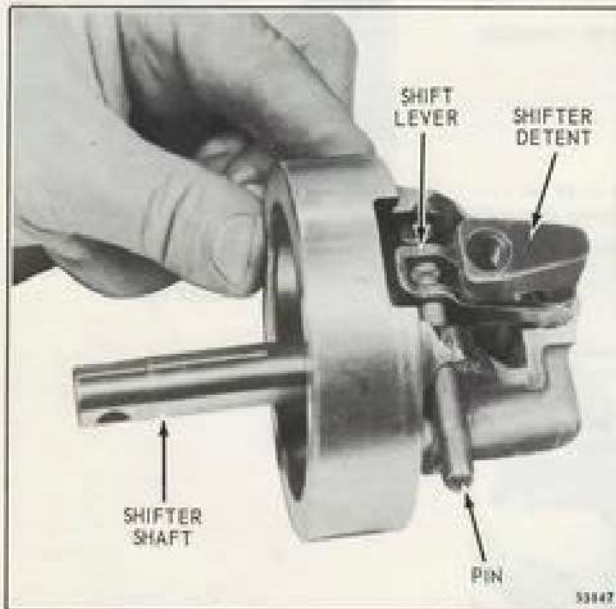

Figure 6-27. Removing Shift Lever Pin
b. Remove shift lever pin. See Figure 6-27. Disengage shift lever from cradle in shifter shaft, and remove shifter shaft and cradle. See Figure 6-28. Remove shift lever.